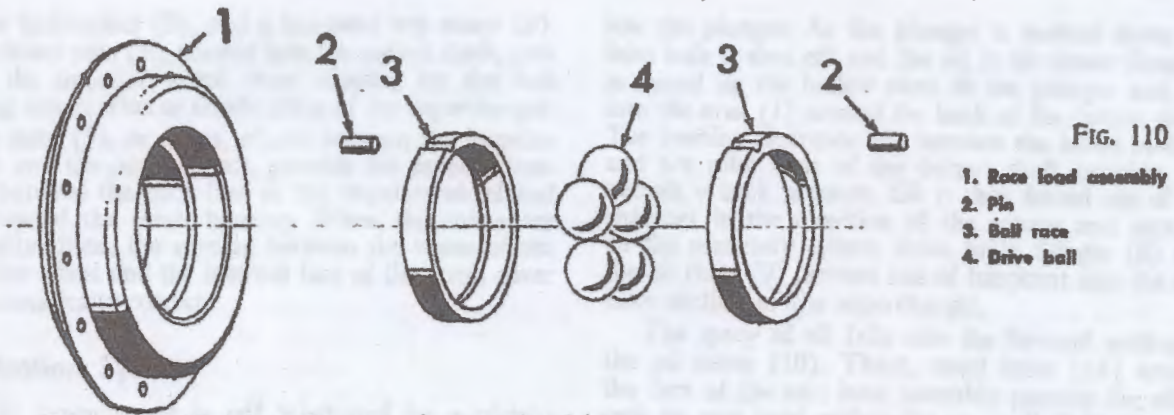
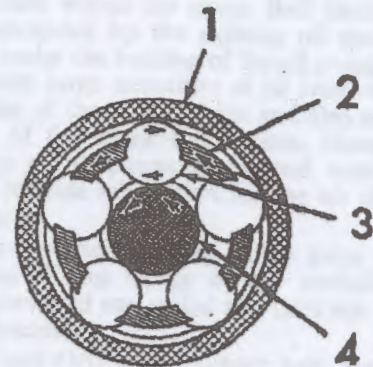

FIG. 110
FIG. 111
When assembled into the supercharger, the drive balls are enclosed between and revolve around the inside faces of the two ball races (3, Fig. 110). As the drive balls (4) are turned (by the ball driver) around the races, they also revolve around their own axis. It is this revolving motion that is transmitted to drive the output shaft, as the output shaft forms the inner raceway of the planetary system (See Fig. 111). One ball race is fitted into the scroll housing and the second race is fitted into the collar of the race load assembly. A pin (2, Fig. 110) is fitted through the outer face of each ball race to prevent turning within their respective bores.